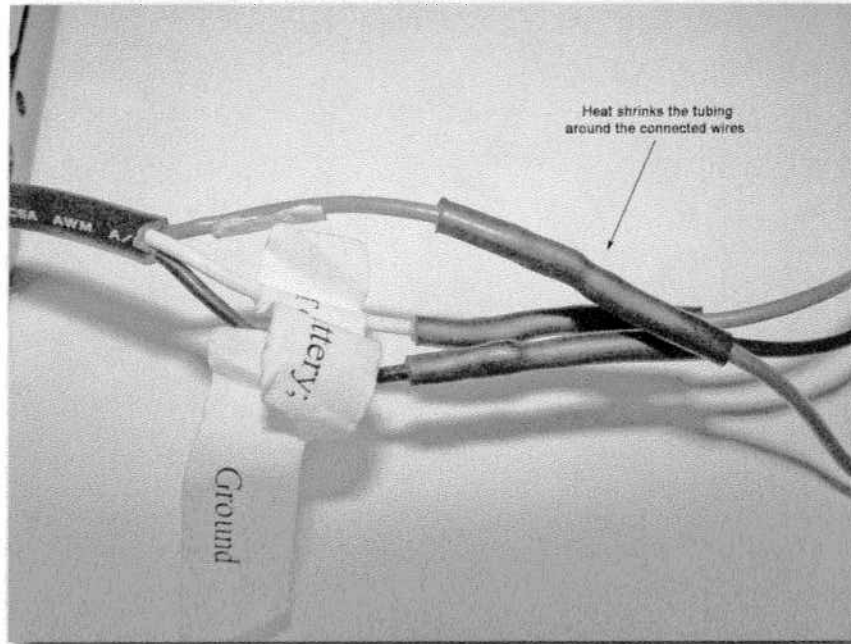

FIGURE 3-10: Use a heater to shrink the tubing around the wires so it doesn't come loose.
4. Now that the wires are soldered together, you can shrink the shrink tubing as illustrated in Figure 3-10, and you're done preparing the device!